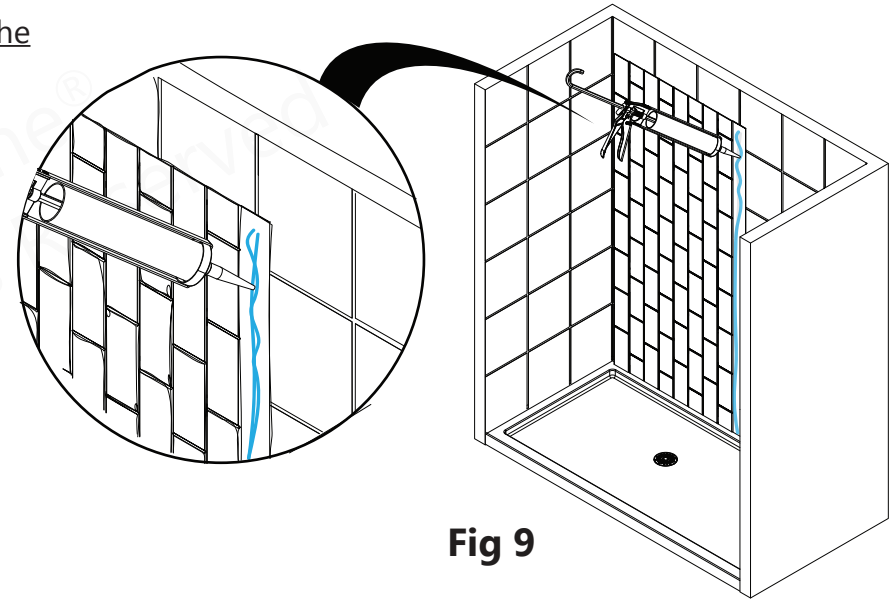

**Fig 8**
7. Apply tub surround adhesive to the back side of the underlapping **Q-Wall Back Panel** (the left **Q-Wall Back Panel** is shown as an example). Install the left/underlapping **Q-Wall Back Panel** against the rear wall of the opening, pressing evenly over the entire surface of the **Q-Wall Back Panel**, especially at the corners and the edges. Remove the protective plastic from the left side **Q-Wall Back Panel** once installed. **Fig 8**
8. Dry fit the 2nd Q-wall Back Panel and make any adjustments necessary. **Fig 8**